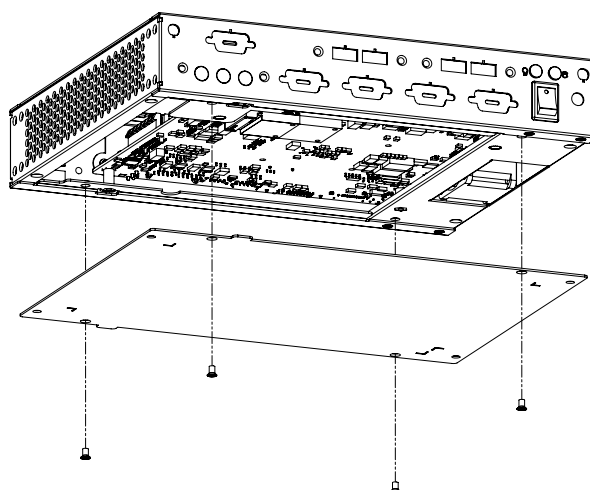

Figure 2.8 Removing the Chassis Cover and Installing the Mini-PCIe Device, Memory/
- Figure 2.8 Removing the Chassis Cover and Installing the Mini-PCIe Device, Memory/ 移除机箱下盖，安裝 mini-PCIe 卡，内存 / 移除機箱下蓋，安裝 mini-PCIe 卡，記憶體 9